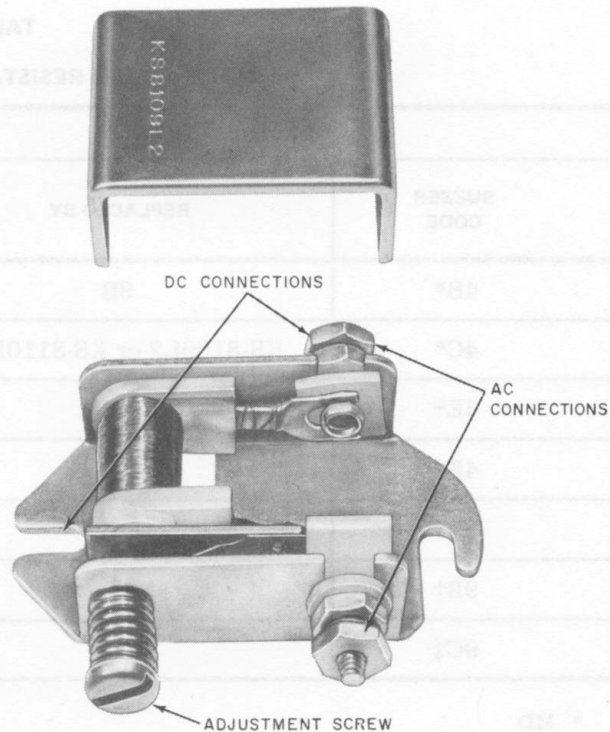

Fig. 6—KS-8109L2 Buzzer
2.12 The KS-8108, 9, and 10, List 2 buzzers (Fig. 6) replace the List 1 buzzers. They have a single coil only and may be used for ac or dc operation. With dc operation, the Lists 1 and 2 buzzers are interchangeable.
2.13 The volume on KS-8108, 9, and 10 type buzzers can be set with the adjusting screw (Fig. 6).